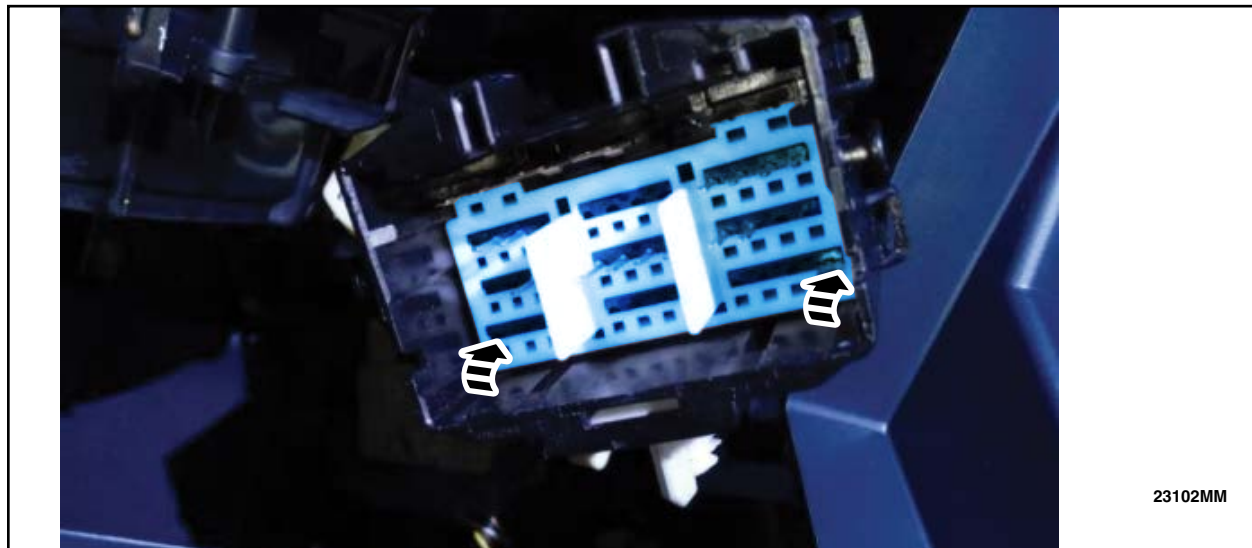

FIGURE 22
26. Reinsert the TPA cover. See Figure 22.